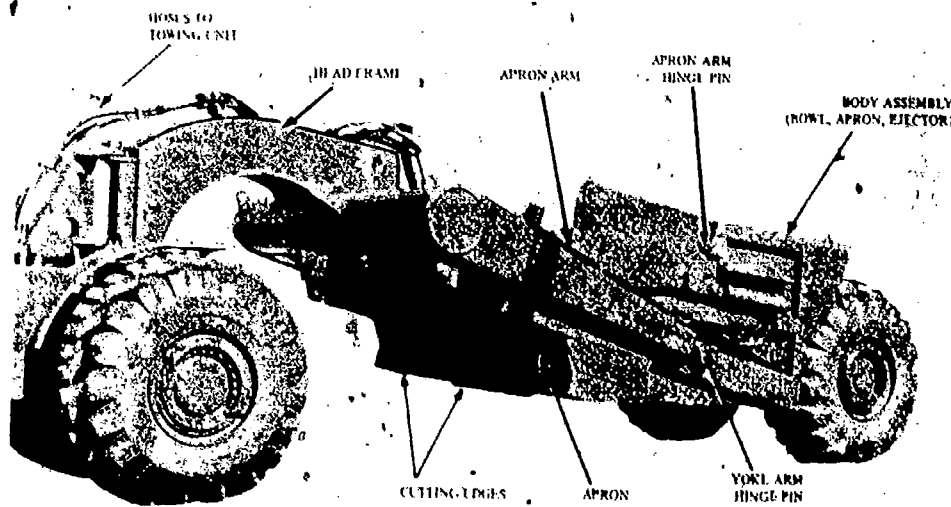

Fig 4-35. Towed scraper.
- (1) Bowl. The raising and lowering of the scraper body or bowl is controlled by hydraulic cylinders.
- (2) Apron and ejector. The apron and ejector are controlled by the hydraulic components. When material is being dumped the apron rises first. When the apron reaches top position, the ejector plate starts to move forward. Return springs are used to assist in returning the ejector plate to its rear position, after which the apron will return to its closed position (fig 4-35).